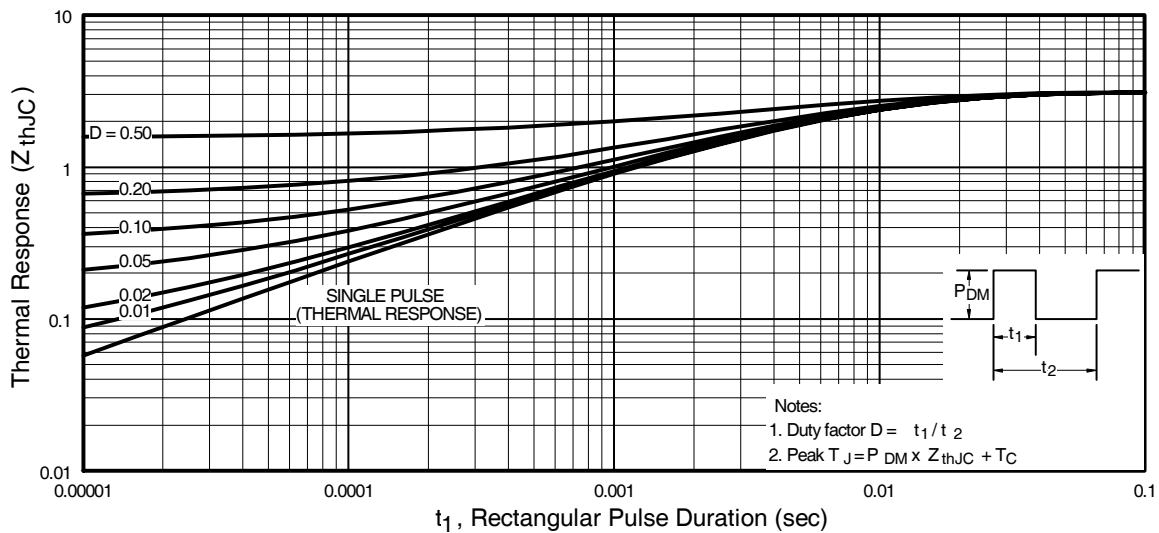

Fig 11. Maximum Effective Transient Thermal Impedance, Junction-to-Case
① Repetitive rating; pulse width limited by max. junction temperature. (See fig. 11)
② $V_{DD} = 25V$, starting $T_J = 25^\circ\text{C}$, $L = 4.7mH$